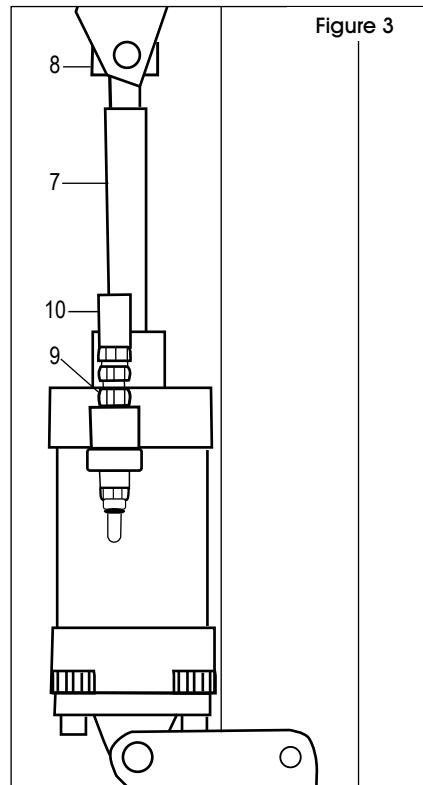

Figure 3
2. Loosen the nut (8). (See Figure 3)
3. Turn the piston rod (7) to set the required gap.
4. Relock the nut (8).
1. Loosen the nut (9). (See Figure 3)
2. Unscrew silencer (10) to obtain the desired speed (max. 160 strokes/min). (See Figure 3)
3. Relock the nut (9). (See Figure 3)